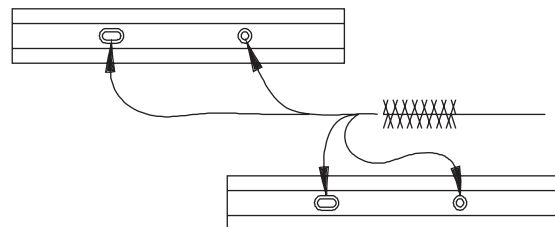

Figure 7-8 Clean beater shaft pin holes
e. The beater shafts and the scraper blade pin holes as shown in figure 7-8.